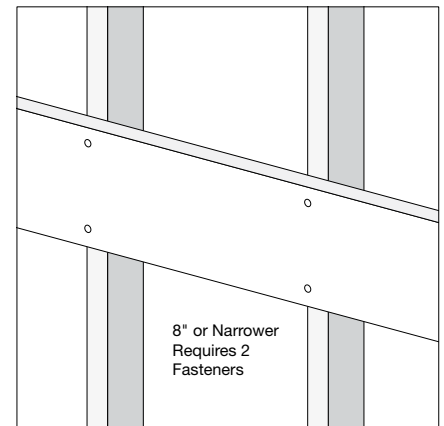

Fig. 5
- 8" or narrower Trimboard require two fasteners evenly spaced across the face of the board and fastened to 1-1/2" thick framing no more than 16" on-center (Fig. 5).